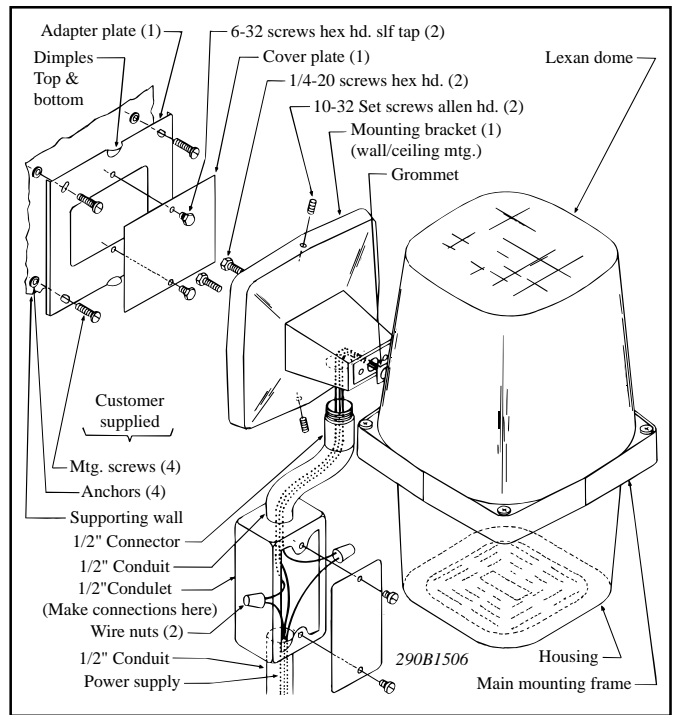

Figure 2.
3. Insert the nylon grommet in the large center hole in the side of the light assembly main frame casting, as shown in figure 2.
4. See figure 2. Attach the wall/ceiling mounting bracket to the main frame casting, using two 1/4"-20 x 1/2" hex head machine screws (supplied), making sure that all wiring from the interior of the light passes through the large center hole in the end of the bracket. Route the wiring through the conduit fitting that was installed in step 2.
2. Insert the nylon grommet in the large center hole in the side of the light assembly main frame casting, as shown in figure 2.